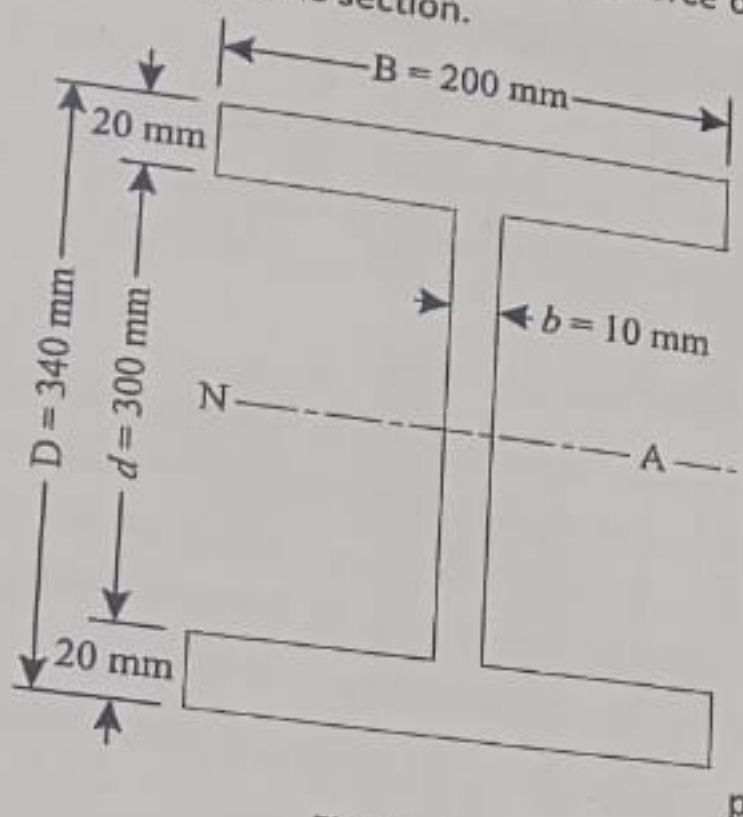

Figure 4
6. An I-section beam $340 \text{ mm} \times 200 \text{ mm}$ has a web thickness of 10 mm and flange thickness of 20 mm (Figure. 4). It carries a shearing force of 100 kN . Sketch the shear stress distribution across the section.